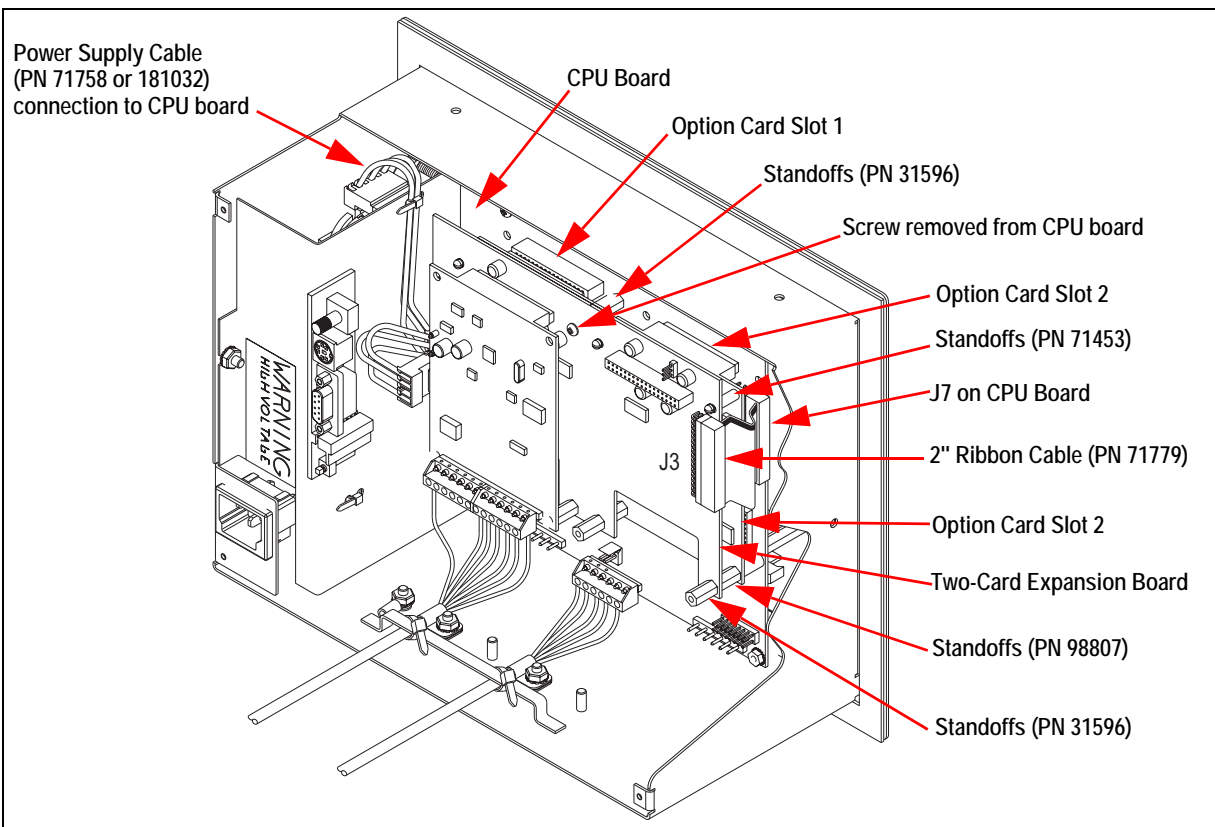

Figure 2. Two Card Expansion Board Installed in Panel Mount or Deep Universal Enclosure
4. Remove the screw from the CPU board (shown in Figure 2) and set aside.